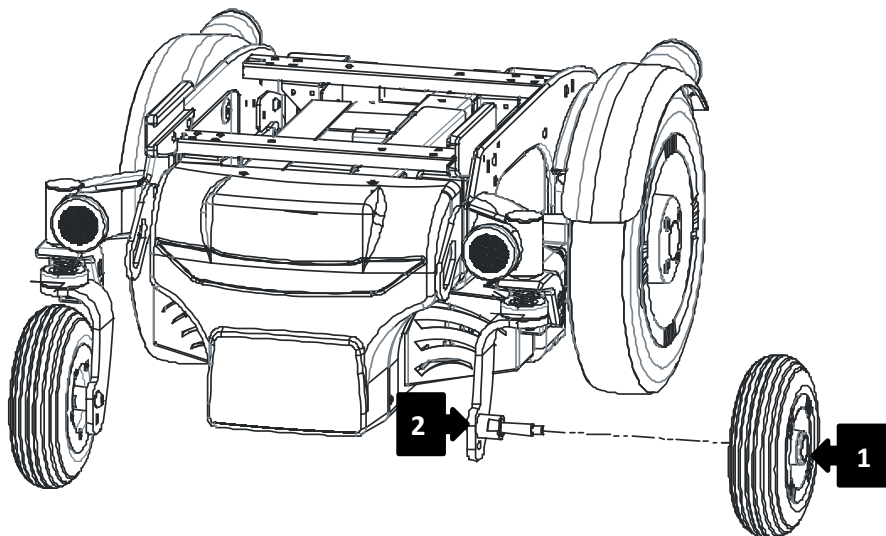

Figure 36
Disassemble the punctured caster unscrewing the bolt shown in Figure 36 by locking the nut (1) with an open-end wrench of 13 mm and unscrew the bolt (2) with an allen wrench of 6 mm.